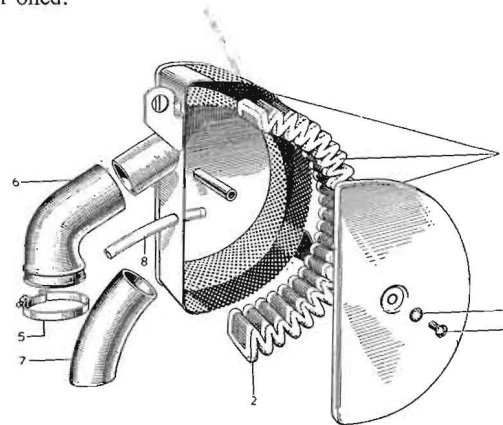
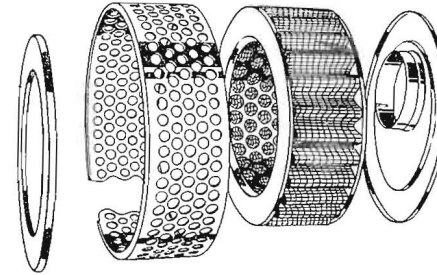

Fig. 8. "D"-shaped type air filter ("wet" element)
Fig. 10. "O"-shaped type air filter ("dry" C and A element)
Removing the Filter from Carburettor. On earlier Triumphs not of the unit-construction type and having the "D"-shaped type filter shown in Fig. 8, servicing the filter, except on some models (e.g. models 6T and T110), necessitates the removal of the oil tank after draining it, disconnecting the oil pipes, and removing the three tank securing bolts. After disconnecting the rubber sleeve shown at (6) and (7) in Fig. 8 the air filter can then be removed. Where oil tank removal on earlier models with separate gearboxes is not necessary the filter assembly can be easily removed after detaching the rear panels or (on many later models) the battery and battery carrier. In the latter case the filter can be lifted clear of the bottom spigot after removing its top bolt.
On all 650 c.c. models with unit-construction of the engine and gearbox, which have a single carburettor, and are fitted with the "O"-shaped type filter shown in Fig. 10, removal of the filter necessitates preliminary removal of the off-side panel (where fitted) from the machine as follows; unscrew the two front panel junction screws, the two domed nuts, and a nut just beneath the rear of the petrol tank. Also on a Trophy model TR6 remove the switch panel. After loosening the central circular clip then slide the air filter off the carburettor adaptor. If any difficulty is experienced, dismantle the air filter *in situ*. Two filters are provided on twin-carburettor models.
On all 350 and 500 c.c. models with unit-construction of the engine and gearbox and fitted with the "O"-shaped type air filter shown in Fig. 10, removal of the filter only entails slackening the central circular clip and then withdrawing the air filter from the carburettor adaptor. As in the case of the 650 c.c. unit-construction models, if difficulty is experienced in removing the complete filter, dismantle it in position on the carburettor.
Dismantling and Assembling the Filter. If it is of the "D" type shown in Fig. 8, unscrew the cover screw (3), remove the cover and then extract the filter element. Should it be of the "O" type shown in Fig. 10, remove the screwed clip securing the outer perforated case, next the back plate, then the filter element, and afterwards slide the front plate from over the carburettor adaptor.
This type of air filter is fitted to the carburettors of many 1956-62 pre-unit construction Triumph twins; most 1958-69 unit-construction models have the more attractive and modern filter shown in Fig. 10 fitted as standard equipment.